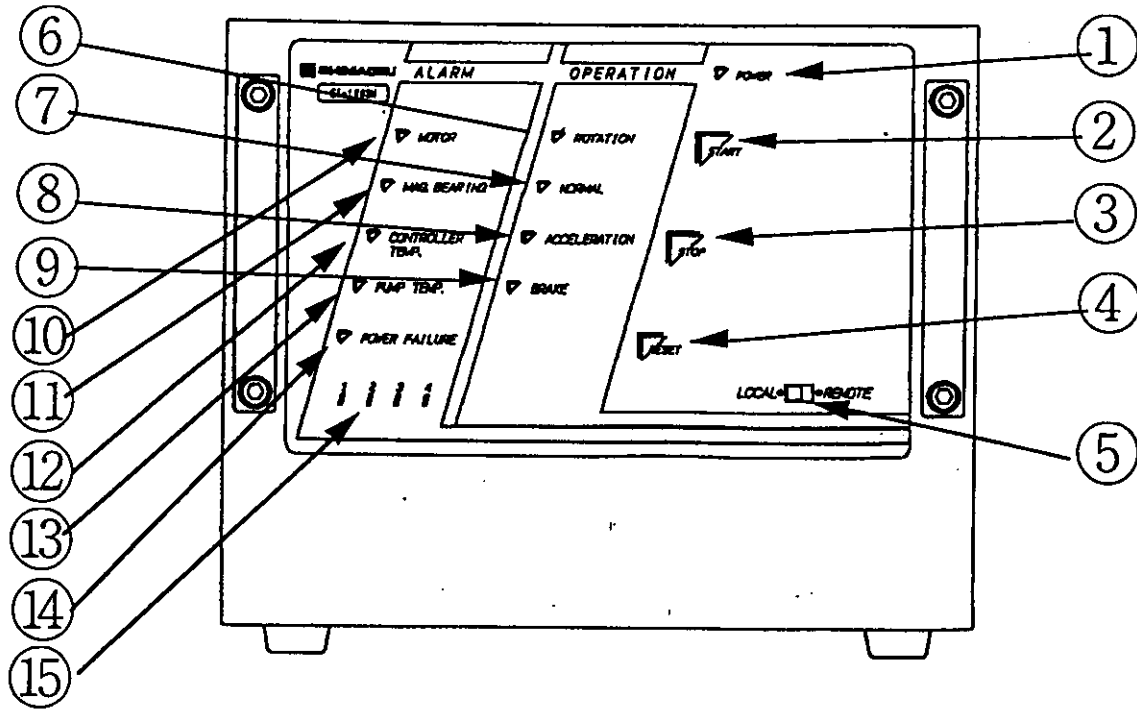

Fig. 2-6 Front Control Panel
2.3.1 Identification and function of power unit components (Figs. 2-6, 2-7)